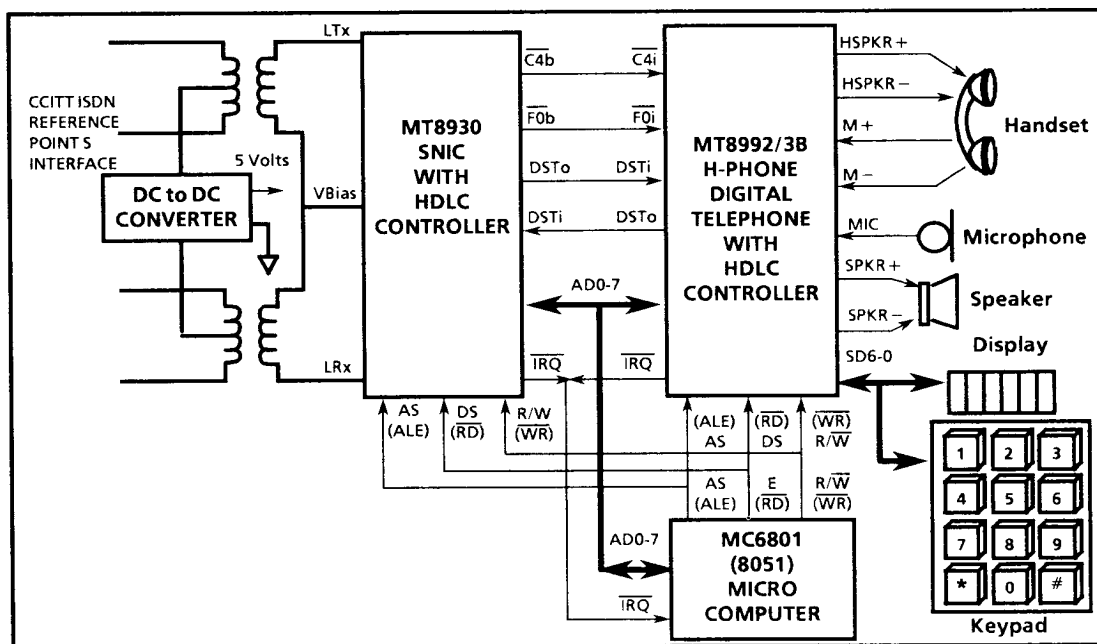

Figure 17 - CCITT ISDN Voice/Data Terminal Equipment - TE1
The MT8992/3B is part of Mitel's ISDN family of components for use in digital telephone sets. When combined with the MT8930 (Subscriber Network Interface Circuit-SNIC) an ISDN terminal equipment (TE) function may be implemented. See Figure 17.